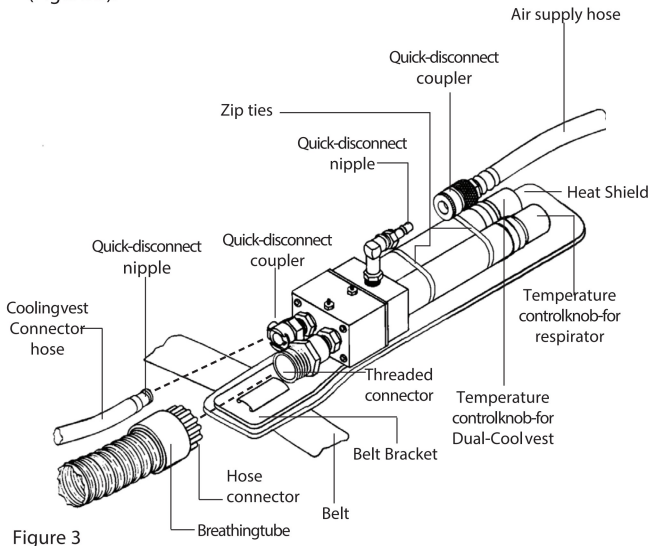

Figure 3
2. Use plastic zip ties (2 included) to secure the climate control to the heat shield. (Figure 3)
1. Screw the hose connector that is on the end of the breathing tube to threaded connector on Dual-Cool. Lace the belt through the slots in the belt bracket (Figure 3).
4. Snap the quick-disconnect nipple found on the end of the cooling vest connector hose into the quick-disconnect coupler on the Dual-Cool (Figure 3).
6. With the approved Bullard air supply hose connected to the breathing air source, and with air flowing into the hose, connect the quick-disconnect coupler on the air supply hose to the quick-disconnect nipple on the Dual-Cool (Figure 3).
1. To obtain cooler air, turn the air temperature control knobs counterclockwise (Figure 3). Maximum cooling is obtained when knobs are open completely and when there is maximum airflow out of the Dual-Cool tube's exhaust ports. To obtain air that is closer to ambient temperature, turn air temperature control knobs clockwise. If knobs are closed completely, your respirator will receive air that is essentially at ambient temperature.